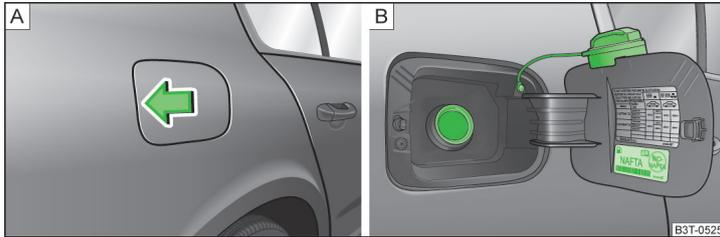

Fig. 162 Open fuel filler flap / tank cap
The correct grades of fuel for your vehicle are stated on a sticker affixed to the inside of the fuel filler flap » Fig. 162 on page 184 - .
- › Press on the fuel filler flap in the direction of the arrow » Fig. 162 - A.
- › Unscrew the filler cap by turning it in a counter clockwise direction and place the cap onto the top of the fuel filler flap » Fig. 162 - B.